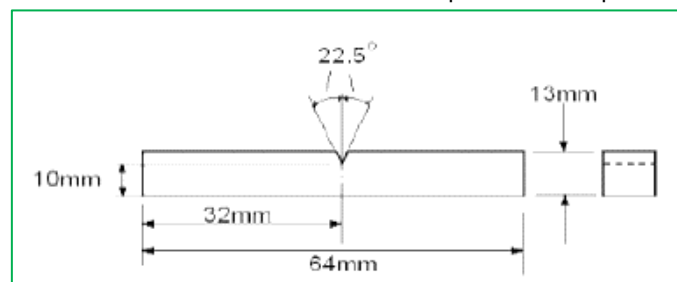

fig.6.1: Izod impact test specimen dimensions
5. At its topmost height after breaking the specimen, the indicator stops moving, while the pendulum falls back. Note the indicator at that topmost final position as shown in fig.6.1